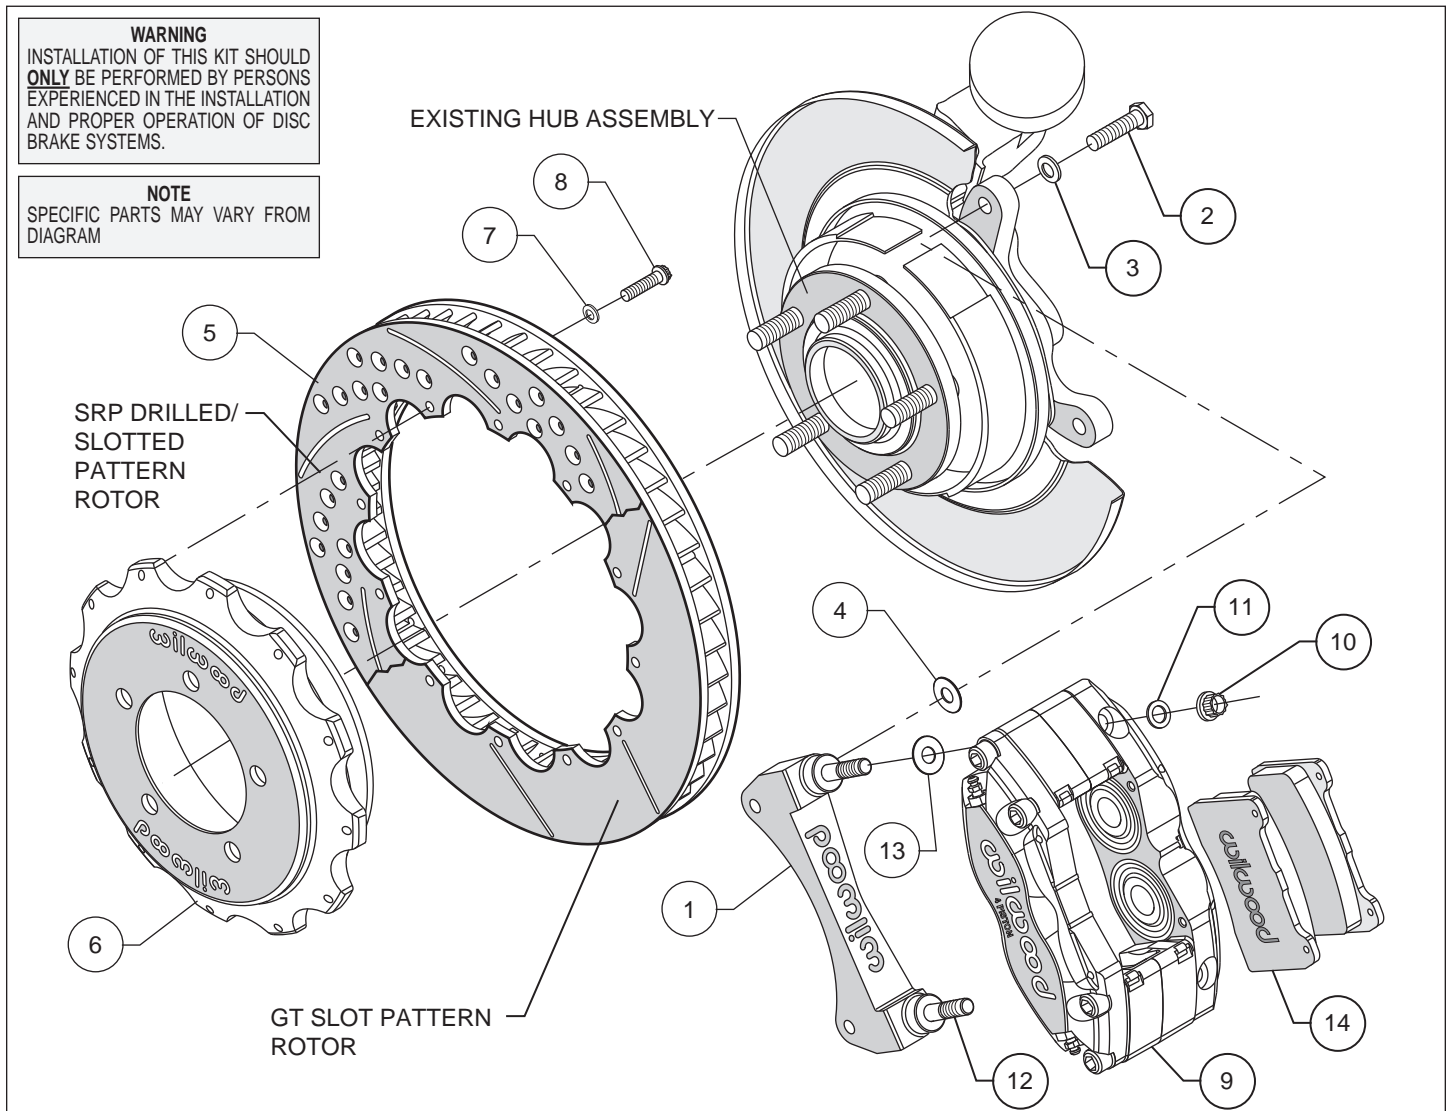
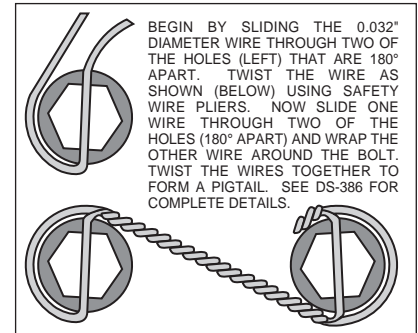

Figure 1. Typical Installation Configuration
Figure 3. Safety Wire Diagram
- The caliper mount bracket assembly (1) should be installed first with clean, dry threads on the mounting bolts. Install the bracket on the outboard side of the hub by sliding bolt (2) through washer (3), then through the OEM caliper mounting bracket ears, shim washer (4) and into the bracket (1). The bracket must tighten squarely against the outboard side of the caliper mount bosses on the upright. Inspect for interference from casting irregularities, machining ridges, burrs, etc. Use one thin shim (4) between the bracket and upright during initial trial fitting. Later, after the caliper alignment has been checked, the mounting bolts will be secured red *Loctite*® 271.
- Assemble the rotor (5) to the hat (6) with the bolts (8) and washers (7) as indicated in the configuration pictured in Figure 1. Using an alternating sequence, apply red *Loctite*® 271 to the threads and torque bolts to 140 **in-lb**. For an added measure of security, the bolts may be safety wired using standard 0.032 inch diameter stainless steel safety wire as shown in Figure 3. Please refer to Wilwood's data sheet DS-386 for complete safety wire installation